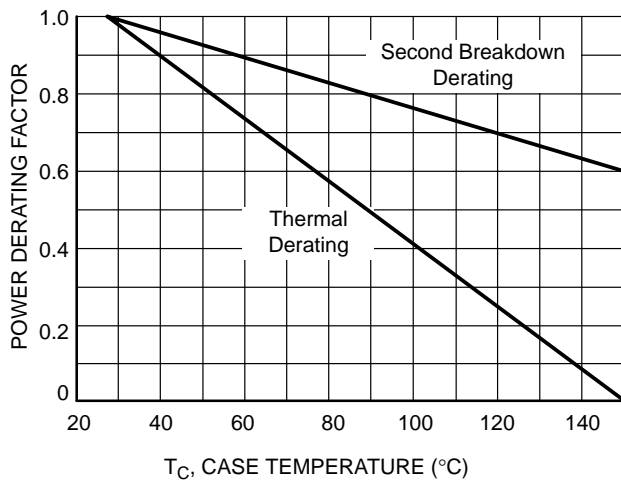

Figure 4. Power Derating
If you prefer to use a curve, a derating factor may be obtained from Figure 4. This derating factor multiplied by the maximum power dissipation limit will yield the same result as the equation.
2. Derate maximum allowable power at temperature by applying the appropriate derating factor from the second breakdown derating curve in Figure 4.